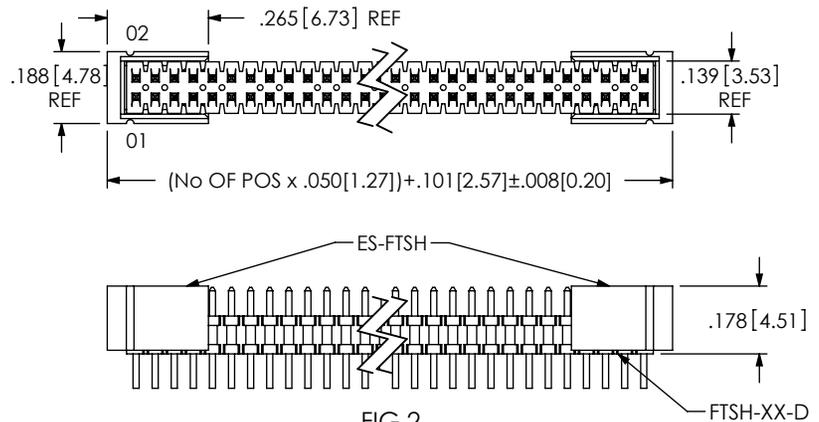

FIG 2
- ES: END SHROUDS (SEE FIG 2, SHT 2)
(DIFFERENT AS SHOWN, OTHERWISE SAME AS FIG 2)